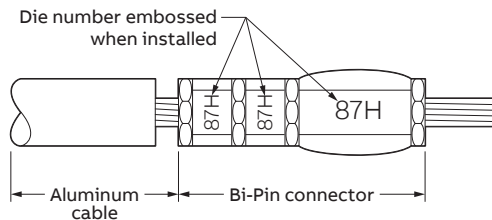

Figure 5
- After crimping, confirm that the number embossed on the Bi-Pin Connector matches the number embossed by the crimp dies. The numbers must match for a proper installation (Figure 5).